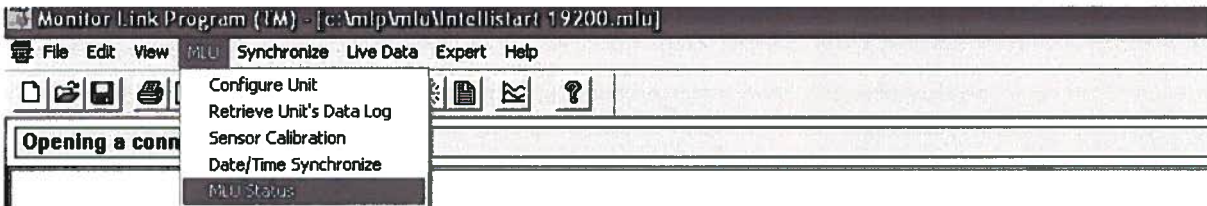

FIGURE 2 MONITOR LINK PROGRAM, MLU STATUS
5. Once communication has been detected, on the tool bar select MLU> MLU Status (Refer to Figure 2).